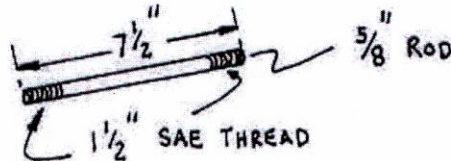

FIGURE 14
10. Make 2 axles as shown in Figure 14 below using an SAE thread 1 1/2" each end.